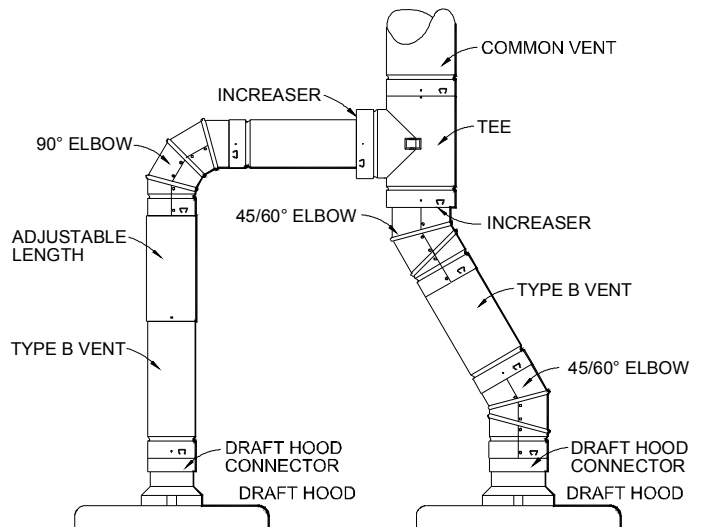

FIG. 3
Selkirk Gas Vent pipe meets all building code and safety standards for use as gas appliance vent connectors. (See Fig. 3). Correct selection of connector and vent size is detailed in the Selkirk Gas Vent and Chimney Sizing Handbook, the "National Fuel Gas Code" (NFPA 54), and local/regional codes.
8. USE OF GAS VENT FITTINGS (See Figs. 3 & 7.)